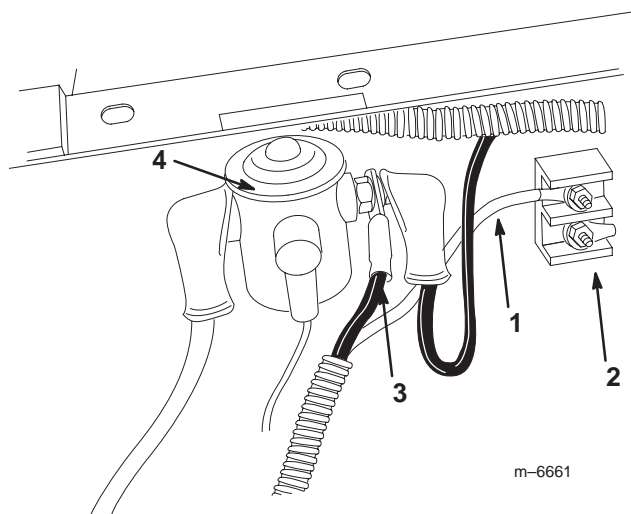

Figure 5
9. Connect the power wire to the solenoid under the driver's seat (Fig. 5).
10. Connect the end of the black ground wire to a ground stud on the ground terminal block (Fig. 5).